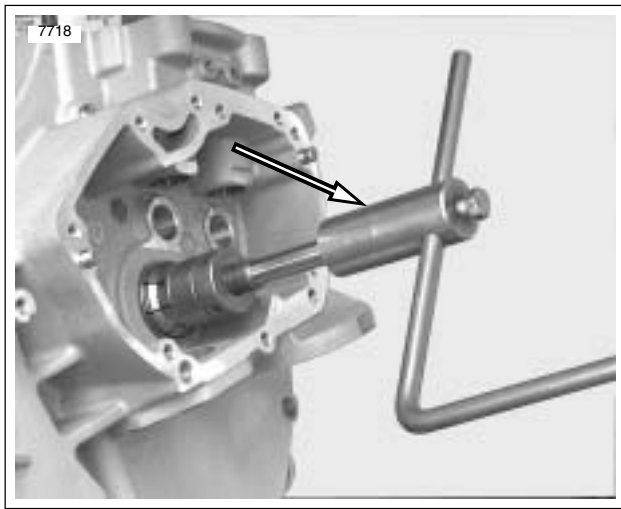

Figure 3-123. Lapping Pinion Shaft Main Bearing Using Crankcase Main Bearing Lapping Tool (Part No. HD-96710-40B)
2. See Figure 3-123. Obtain CRANKCASE MAIN BEARING LAPPING TOOL (Part No. HD-96710-40B). Assemble CRANKCASE MAIN BEARING LAP (Part No. HD-96718-87) to lapping handle. Assemble guide sleeve to sprocket shaft bearing bushing. Sleeves, for use with tapered bearing, are assembled to case with bearings and small spacer collar. Finger-tighten the sleeve parts.